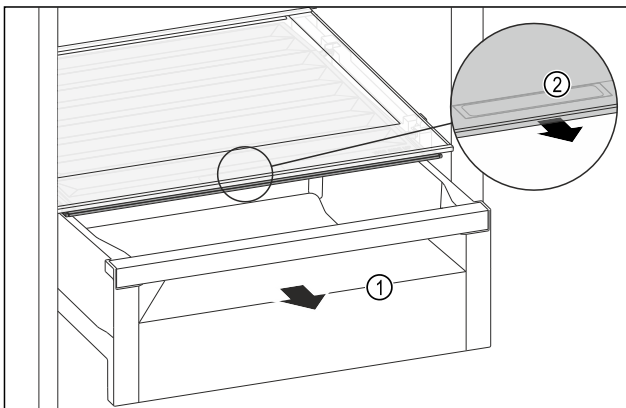

Fig. 144
- Pull out the drawer *Fig. 144 (1)*.
- Grip the handle recess *Fig. 144 (2)* on the lid while pulling the lid forward at the same time.